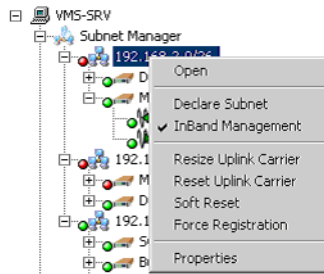
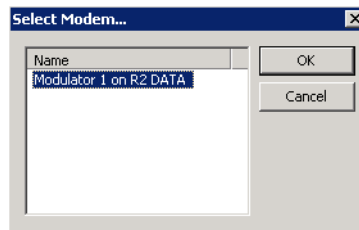

Figure 3-24 InBand Settings for Remotes
Figure 3-25 Select Switching Modulator
1. Enable **InBand Management** on each remote subnet. On nodes which are part of the switched network, right-click on the Subnet icon from the Tree View and select **InBand Management**, as shown in figure 3-24.
2. When **InBand Management** is selected, as shown in figure 3-24, a window will open prompting the operator to select the Modulator for switching from the **Name** list shown in figure 3-25.